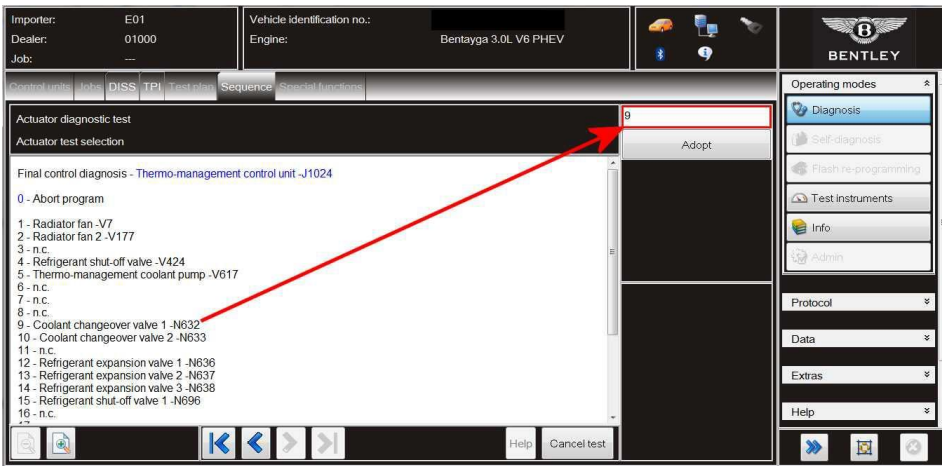

Figure 3
3) Referring to Figure 3 - insert/type 9 (Coolant changeover valve 1 -N632) into the options box